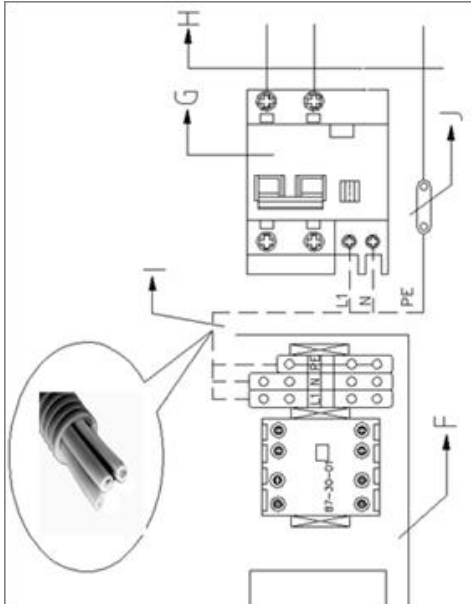

Figure 12 220-240V 1P+N
Connect the power supply as shown in Figure 12: Use the supplied power supply cables (I) (refer to technical data sheet). Connect the 1-phase cable “L1,N” to the residual leakage circuit-breaker (G) which should be supplied by the customer. Connect the PE to the customer's grounding terminal.